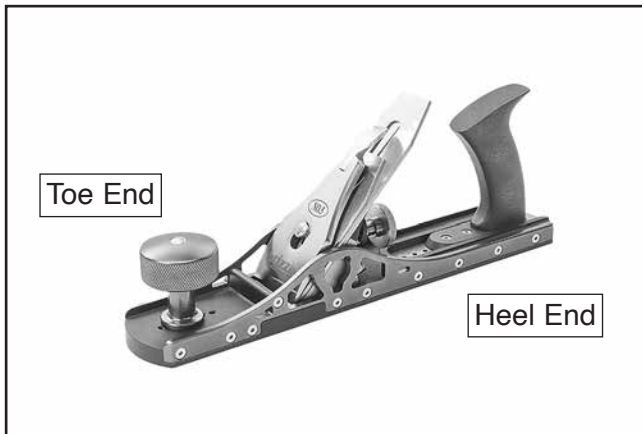

Figure 12. Toe and heel ends of jack plane.
4. Begin stroke with majority of hand pressure on toe end of plane, as shown in **Figure 12**.
5. When entire sole rests on workpiece, balance hand pressure on both toe end and heel end of plane, then increase pressure on heel end during end of stroke (see **Figure 12**).